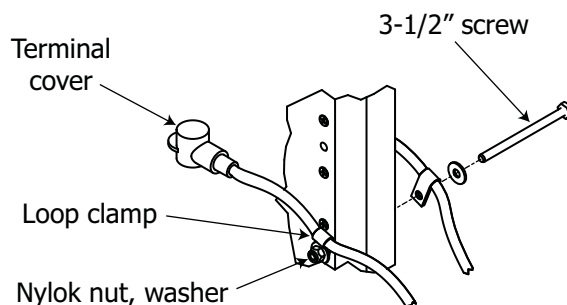

Figure 1. Loop Clamp Assembly
- b. Secure the cables to the cell edge as shown in Figure 1, using (2) loop clamps, (1) 3-1/2" screw, (1) Nylok nut, and (2) flat washers.